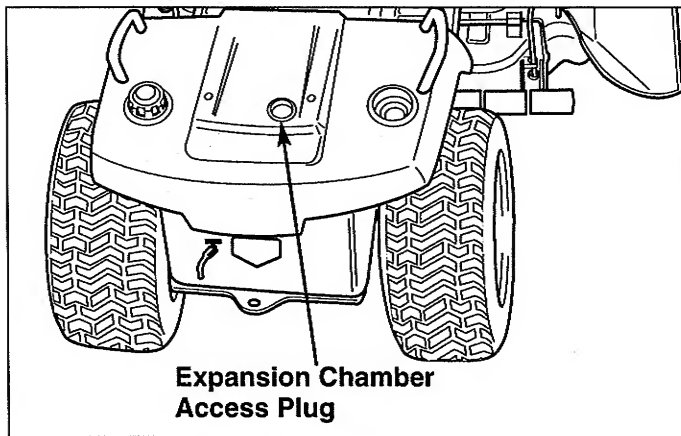
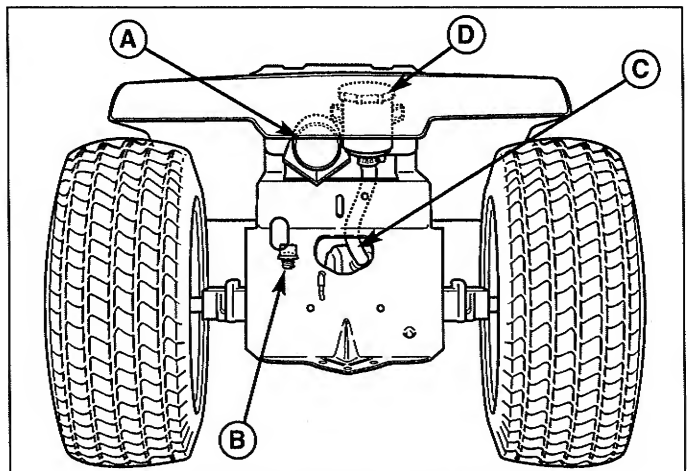

Figure 22. Seat Deck Access Plug
Figure 23. Hydraulic System Oil Filter
1. Locate the clear tube (C, Figure 23) and expansion chamber (D) under the seat deck. Using a flashlight, observe the oil level in the clear tube. 1" of oil should be visible in the clear tube. **DO NOT OVERFILL.** Empty space is required in the tube and expansion chamber for heat expansion.
2. If necessary, remove the plug from the seat deck (Figure 22), clean the area surrounding the expansion chamber (D, Figure 23), remove the cap, and add oil.
2. Remove the differential fill cap (B, Figure 23).
4. Remove and replace the hydraulic system filter (A, Figure 23). Thread the new filter onto the filter base and tighten 1/2 to 3/4 turns past finger tight.
7. Using a long funnel, add 2 quarts of oil to the differential fill (the differential fill cap B, Figure 23 should have been removed earlier).
8. Reinstall the differential fill cap (B, Figure 23).
9. Remove the expansion chamber access plug (Figure 22) and expansion chamber cover. Add 2 quarts (1.9L) of oil to the expansion chamber (D, Figure 23) a few ounces at a time.
10. Reinstall the expansion chamber cover (D, Figure 23) and access plug (Figure 22).
12. Recheck the transmission oil level. There should be 1" (2.5cm) of oil visible in the clear plastic Tube (C, Figure 23). **DO NOT OVERFILL.** Empty space is required in the tube and expansion chamber for heat expansion.